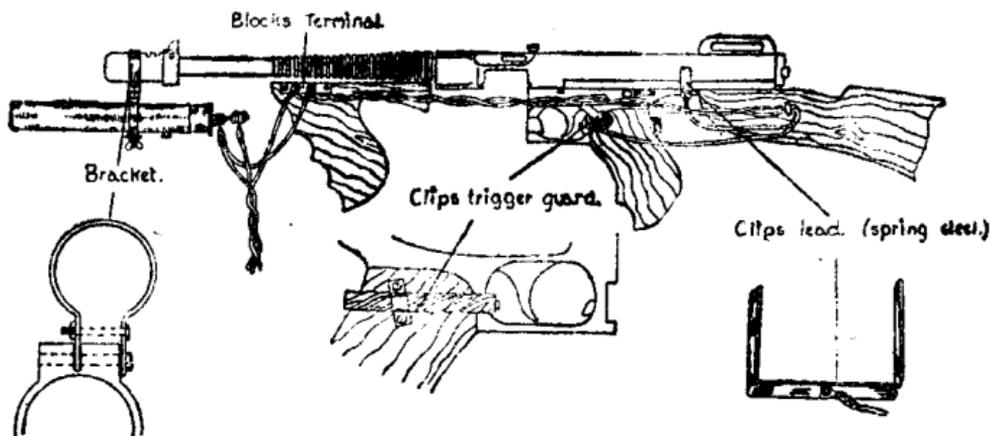

FIG. 6
1. Fig. 6 shows the method of attaching the spotlight projector to the Thompson Machine Carbine with vertical foregrip and compensator. The only additional fittings required are :—